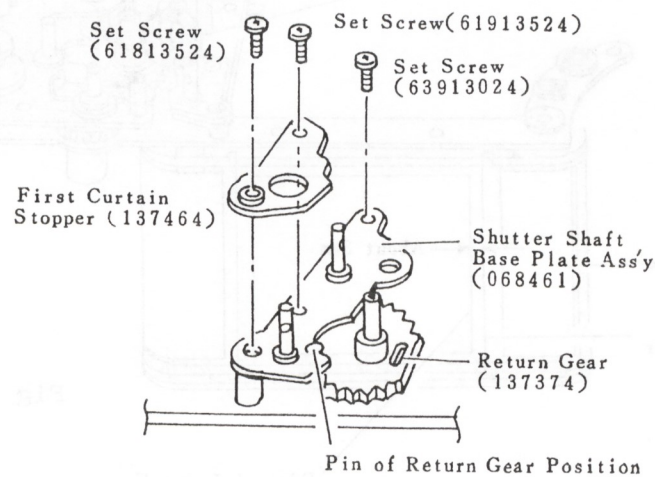

Fig 23
- g) Pay attention to the direction and position of the Return Gear (137374) and Shutter Shaft Base Plate Ass'y (068464). See (Fig 23)